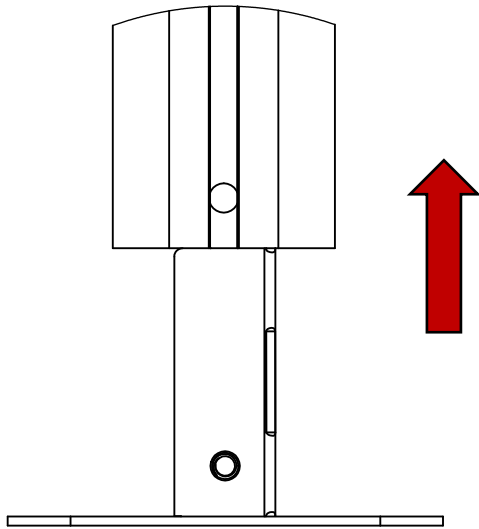
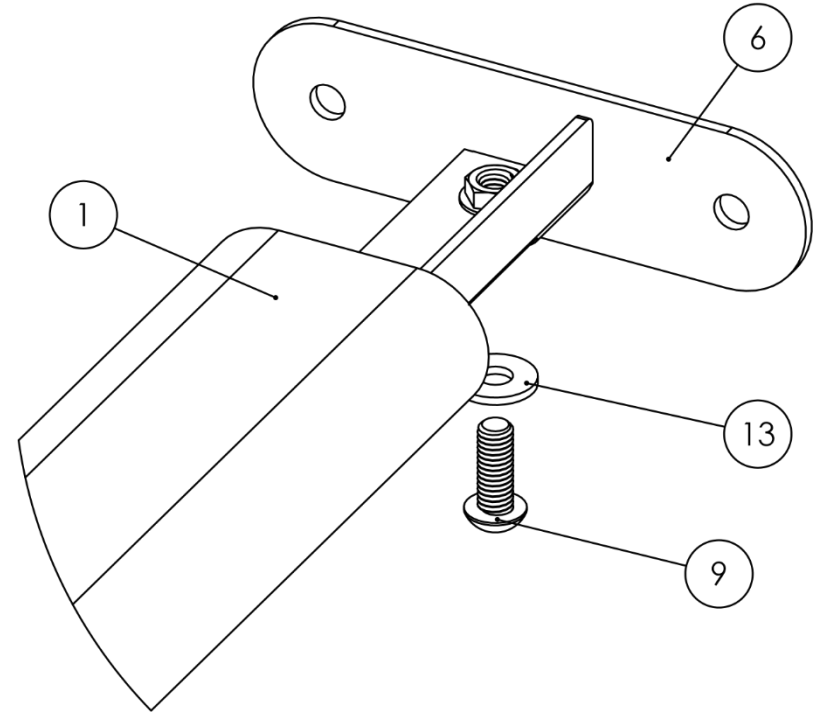

Figure 9
Figure 10
- Install the Side Rail Connectors to the Crossbars.** Examine the Side Rail Connectors (Item No. 6) and notice that of the 6 provided, 2 are shorter in size. These smaller ones will require installation within profile 1 – the front Crossbar (Item No. 1). As shown in Figure 9, slide a Side Rail Connector into the end of each Crossbar. Once inserted, match the Crossbar's pre-drilled hole with the Connector's threaded hole. As shown in Figure 10, secure each Side Rail Connector by threading a 1.25" Button Head Cap Screw (Item No. 9) and a Metal Washer (Item No. 13) into these holes.